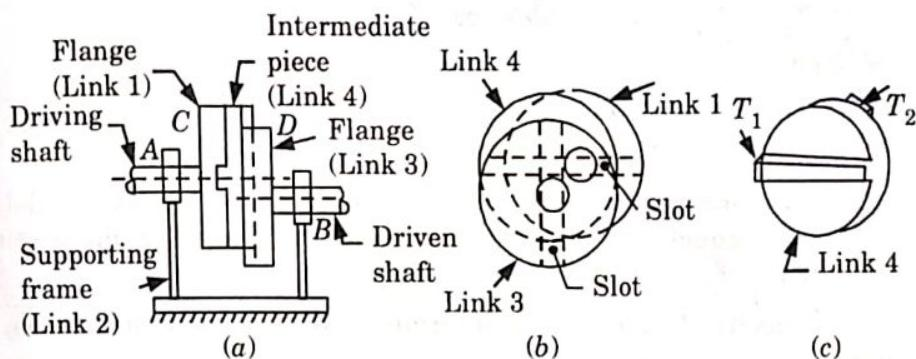

Fig. 1.14.4.
3. This inversion is obtained by fixing the link 2, as shown in Fig. 1.14.4(a).
5. The link 1 and link 3 form turning pairs with link 2. These flanges have diametrical slots cut in their inner faces, as shown in Fig. 1.14.4(b).
6. The intermediate piece (link 4) which is a circular disc, have two tongues (*i.e.*, diametrical projections) T_1 and T_2 on each face at right angles to each other, as shown in Fig. 1.14.4(c).